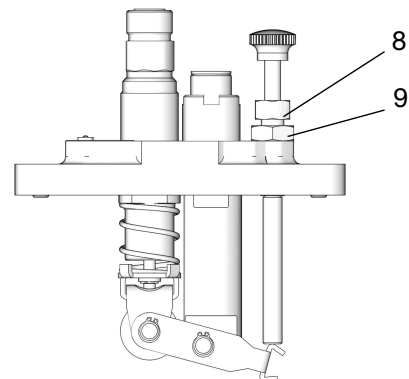

FIG. 9
Pump volume is controlled by an external adjusting screw (8) (FIG. 9). Turning the adjusting screw changes the length of the piston stroke which changes the pump discharge volume.
1. Loosen the adjusting screw locknut (9) (FIG. 9).
2. Turn the adjusting screw (8) (FIG. 9):
5. Once the pump is adjusted to the proper specification, tighten the adjusting screw locknut (9) (FIG. 9).
The number of drops observed falling in the sight well equals the amount of oil discharged by the pump. The pump volume can be adjusted using the adjusting screw (8) (FIG. 9) to change the piston stroke. (See Adjusting the Pump.)